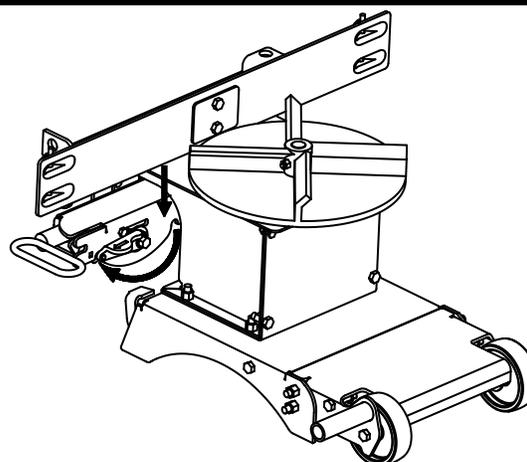

Figure 12. Lever Rotation
6. Rotate the release lever clockwise to the "OFF" position, refer to Figure 12.